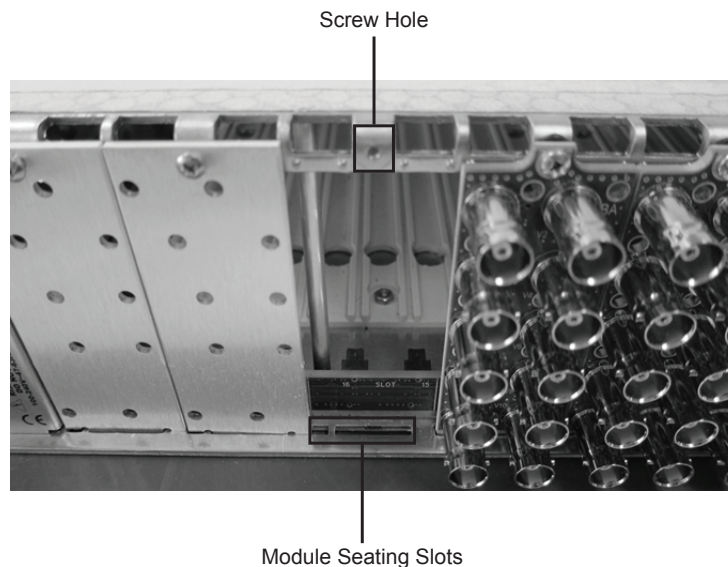

Figure 2.1 Rear Module Installation in an OG3-FR Series Frame (Cards not shown)
4. As shown in **Figure 2.1**, seat the bottom of the rear module in the seating slot at the base of the frame's back plane.